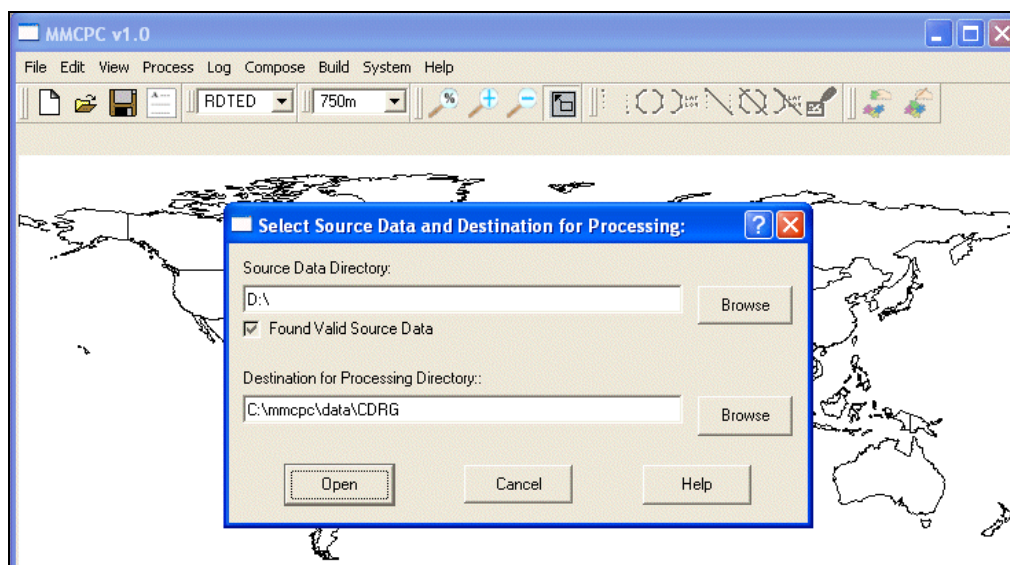

Fig. 44 — Process CDRG data browser
2. A window appears (Fig. 44) prompting the user to select the source and destination directories for processing. Use the top Browse button to navigate to the CD-ROM drive of the computer. Verify that a checkmark is displayed next to Found Valid Source Data.